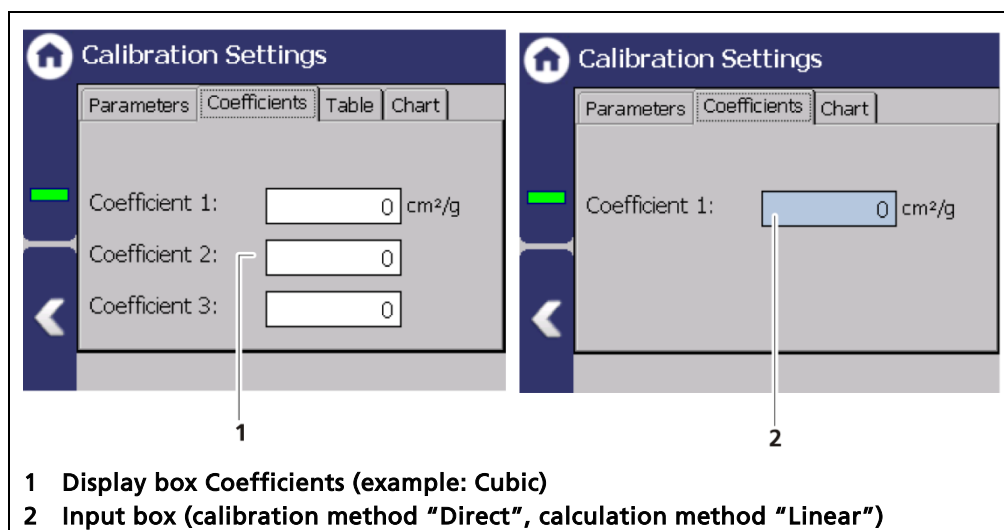

Fig. 89 Calibration settings: Coefficients
The calibration curve (absorption coefficient) is calculated by the EVU from the determined measured values and displayed in the tab "Coefficients" (Fig. 89).
When selecting the calibration method "Direct" (Fig. 81, item 3) the table tab is hidden and valid coefficients (Fig. 89, item 2) need to be entered.